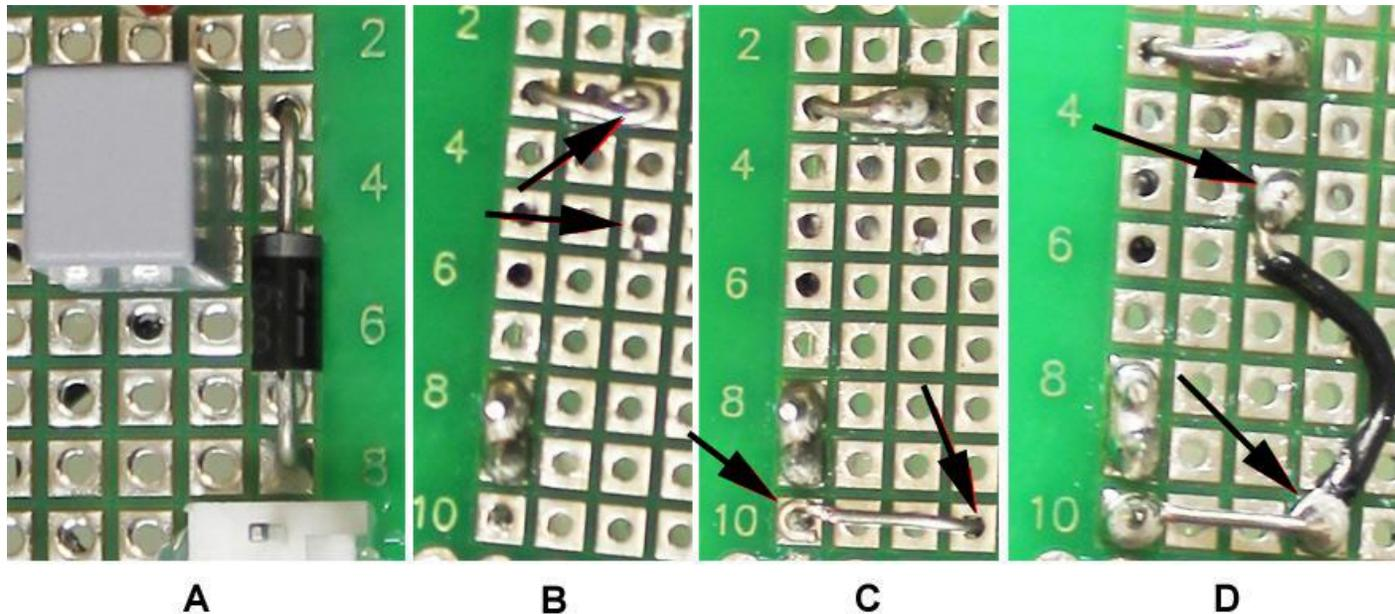

Figure 2
4. Insert capacitor C1 into board as seen in Figure 2A. Both pins of the capacitor should be in the third column of holes from the right side of the board. One of the pins of the capacitor should be in the same row (row #3 in Figure 2 photos) as the cathode wire of the Schottky diode.